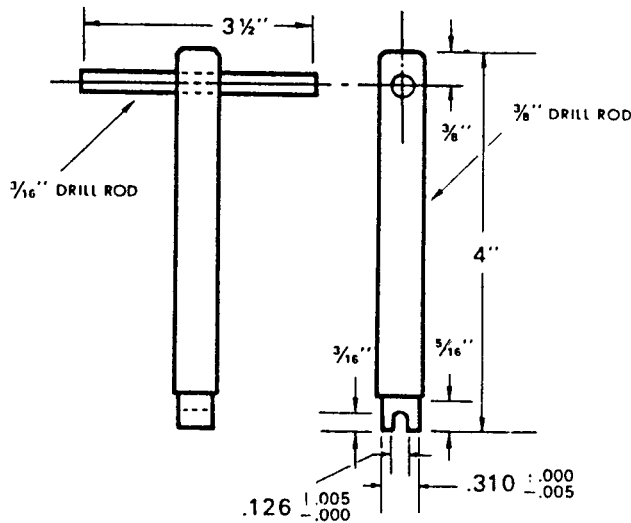

Figure 7-1. Check Valve Tool
- a. Check Valve Tool. The check valve tool is made from a 4 inch length of 3/8 inch drill rod. Refer to figure 7-1 to fabricate this tool.
- b. If bearings (16) have been removed, deburr bearing bores. Rinse parts in a solvent. Air blast all parts and wipe with a clean lintless cloth before starting assembly.
- c. Grip shaft end cover (13) in vise with mounting face down. Examine plug or 2 check valves (21) to be sure they're tightly in place. Replacement is necessary only if parts are damaged. Remove with screwdriver or special check valve tool (see figure 7-1).
- d. If plug or check valves (21) are being replaced, screw in new parts tightly. Stake plug with prick punch at both ends of screwdriver slot and around edges. Screw check valves in tightly with tool. Peen edge of hole 1/32" to 1/16" with 14" diameter steel ball.
- e. If ring seals (17) are being replaced insert into bottom of drive gear bearing bore. The notch in the ring seal **MUST BE VISIBLE**. This is a check to be certain the notched side is next to the bearing.
- f. If any bearings (16) have been removed from the shaft end cover (13), port end cover (4), or bearing carrier (9), replace the bearings by pressing them into the bearing bore with an arbor press.
- g. Before inserting a new lip seal (20) in the shaft end cover (13), coat the outer edge of the lip seal and its recess with Permatex Aviation Form-A-Gasket No. 3 Non-hardening Sealant or equivalent. With the metal side of the lip seal up, press it into the mounting flange side of the shaft end cover with an arbor press.